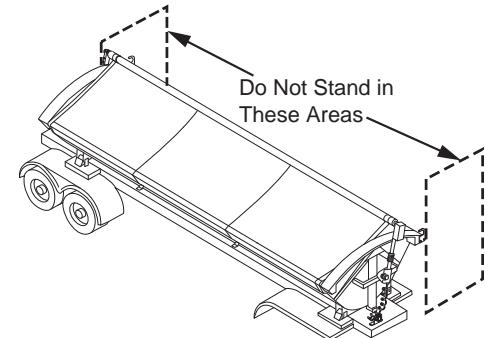

Figure 1
- 1) **See Figure 1.** Deploy the tarp to its complete covered position. Start by adjusting the front spring (white) in the front spring assembly. It may be helpful to unbolt the roll pipe adapter from roll pipe (3 - 3/8" Allen head bolts) as you may need to release a small amount of preset spring tension still applied to swing arm.
- 5) **See Figure 1.** Lift the swing arm back up and bolt to roll pipe.
- 1) See Figure 1.** Attach one end of the come-along to the front swing-arm (A), near the motor housing. Attach the other end of the come-along to the trailer on the side the tarp is anchored (B).
- 2) See Figure 1.** Attach another come-along between the rear swing-arm (C) and trailer (D).